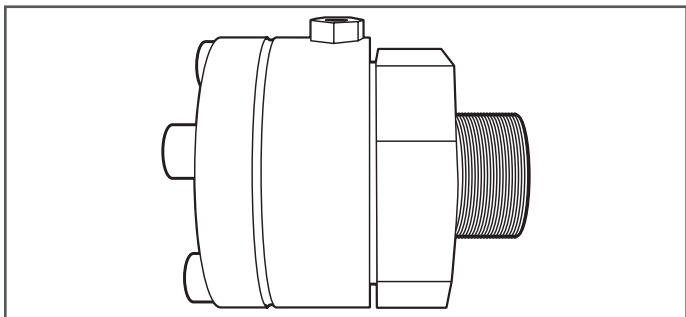

Figure 7-6
7. DoubleTrac® field attachable fittings (Figure 7-6).